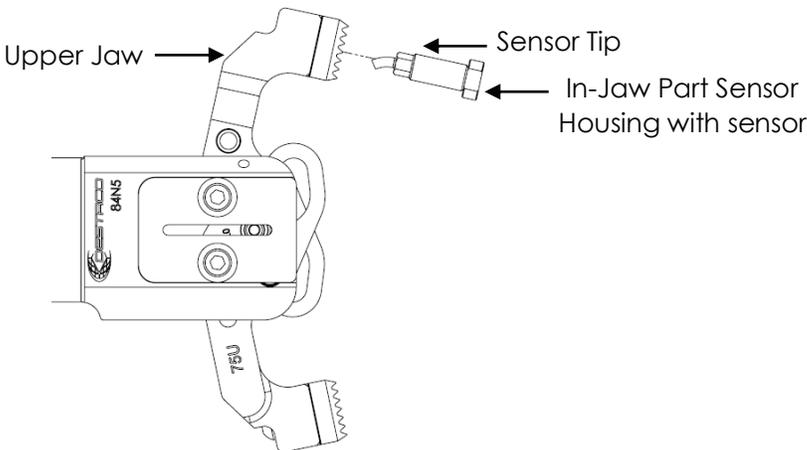

Fig.32
2. Remove the existing in-jaw sensor housing from the upper jaw using 10mm and 6mm wrench (see Fig.32).